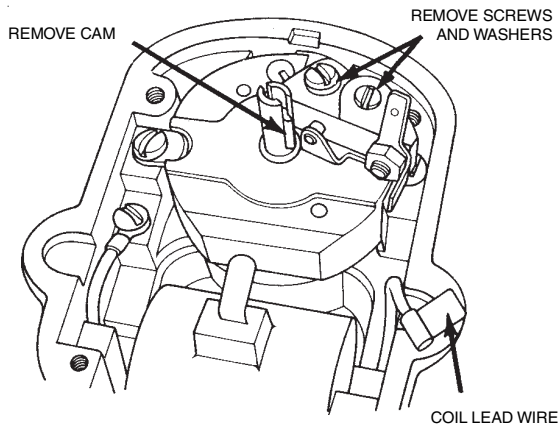

Figure 6.7.1
- D. Remove cam by prying straight up with a screwdriver blade. (See Figure 6.7.1.)